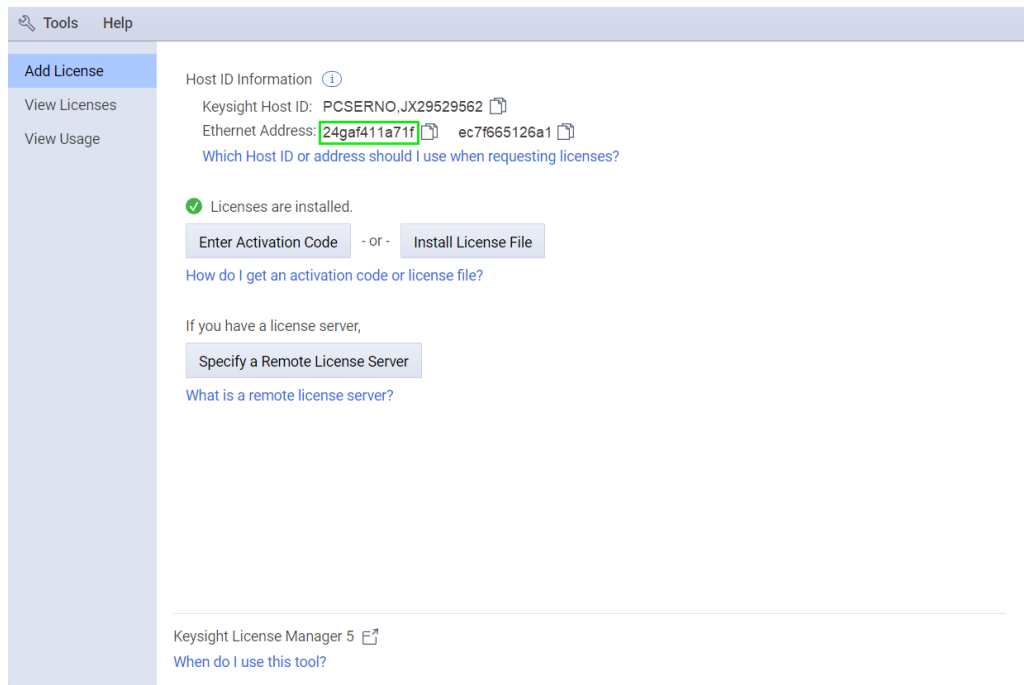

Figure 2 Viewing the Ethernet Address
- 2 Copy the **Ethernet Address**, which is a set of alphanumeric values (as highlighted in Figure 2) that appears in the **Add License** tab of the application.